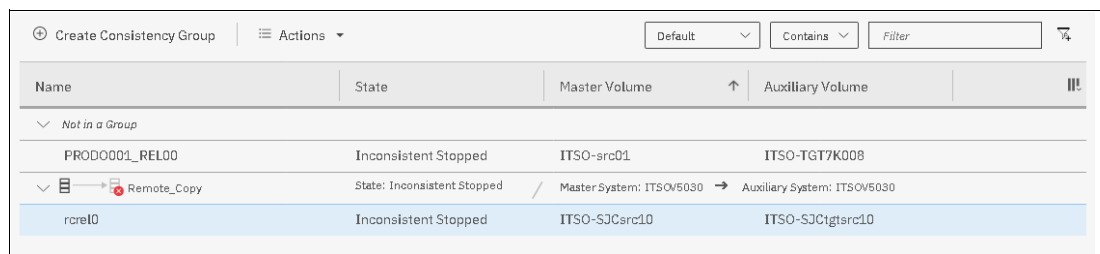

Figure 10-105 Remove from Consistency Group action
- Select the remote copy relationship to remove from the Consistency Group and right-click **Remove from Consistency Group**, as shown in Figure 10-105.